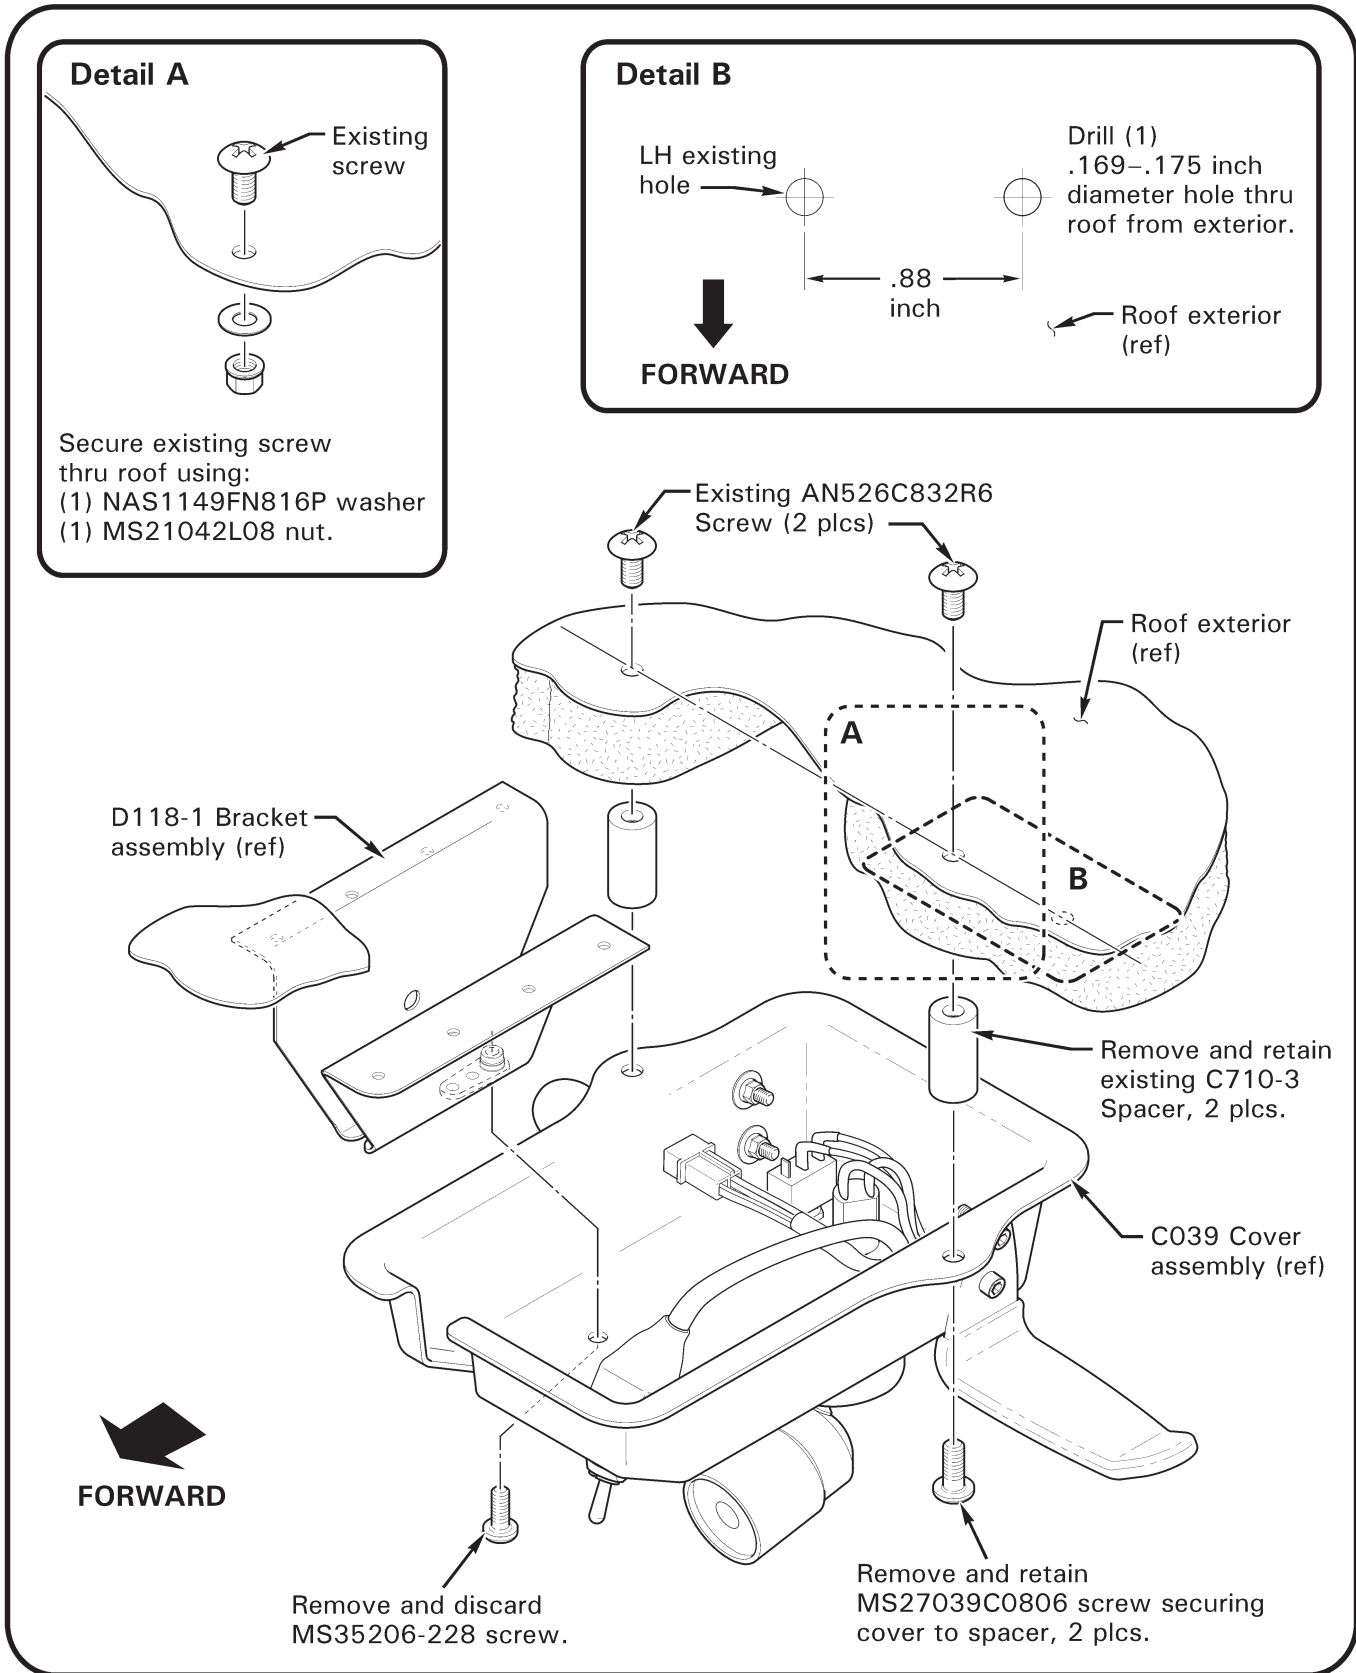

FIGURE 1 Existing C039 cover assembly installation
3. Refer to Figure 1. Remove and discard screw securing C039 cover assembly to D118-1 (rotor brake) bracket assembly; remove and retain screws securing cover to C710 spacers. Lower cover and disconnect cover wiring from airframe harness. Remove cover.
4. Refer to Figure 1. Layout dimension on exterior roof for drilling new hole as shown in Detail B, using straight edge to maintain lateral alignment with existing holes. Using a drill stop, drill (1) .169–.175 inch diameter hole. Deburr hole and clean up debris. Using a pick or similar tool, pierce headliner at newly drilled hole. Install new AN526C832R6 screw (provided).
5. Refer to Figure 1. Remove C710-3 spacer from center screw and secure screw to roof using (1) NAS1149FN816P washer and (1) MS21042L08 nut as shown in Detail A. Install spacer to newly installed AN526C832R6 screw.